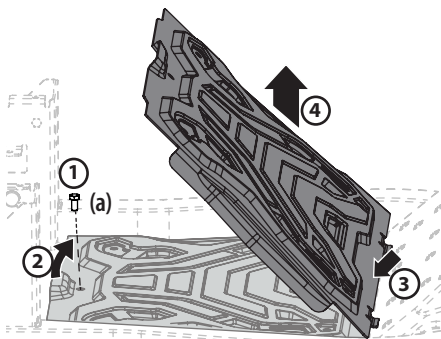

Figure 34
1. Using the multi-tool (if equipped) or a 1/2" socket, remove the hex screw (a) that secures the floor panel in place. See 1 in Figure 34.
2. Carefully lift the rear of the floor panel. See 2 in Figure 34.
3. Slide the floor panel rearward to free the front of the floor panel. See 3 in Figure 34.
4. Lift it off the tractor. See 4 in Figure 34.